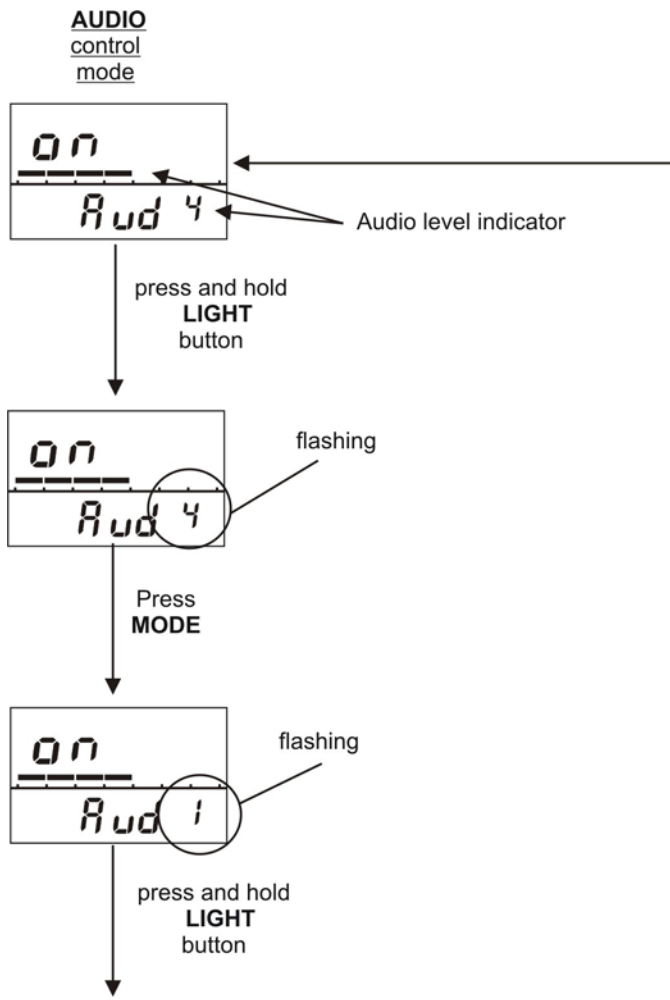

Figure 2.4 – Audio control mode
- sound pressure level control (Fig. 2.4) and indication in the analog (scale) and digital formats (from 1 to 4);